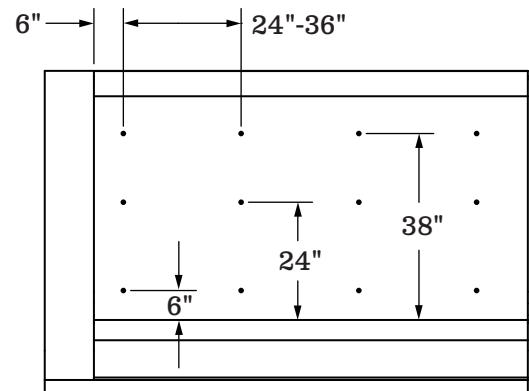

Figure 27
- 2) **See Figure 27, 28, & 29.** Side wall liner should cover the upper section of the leading edge protector holding the main liner.